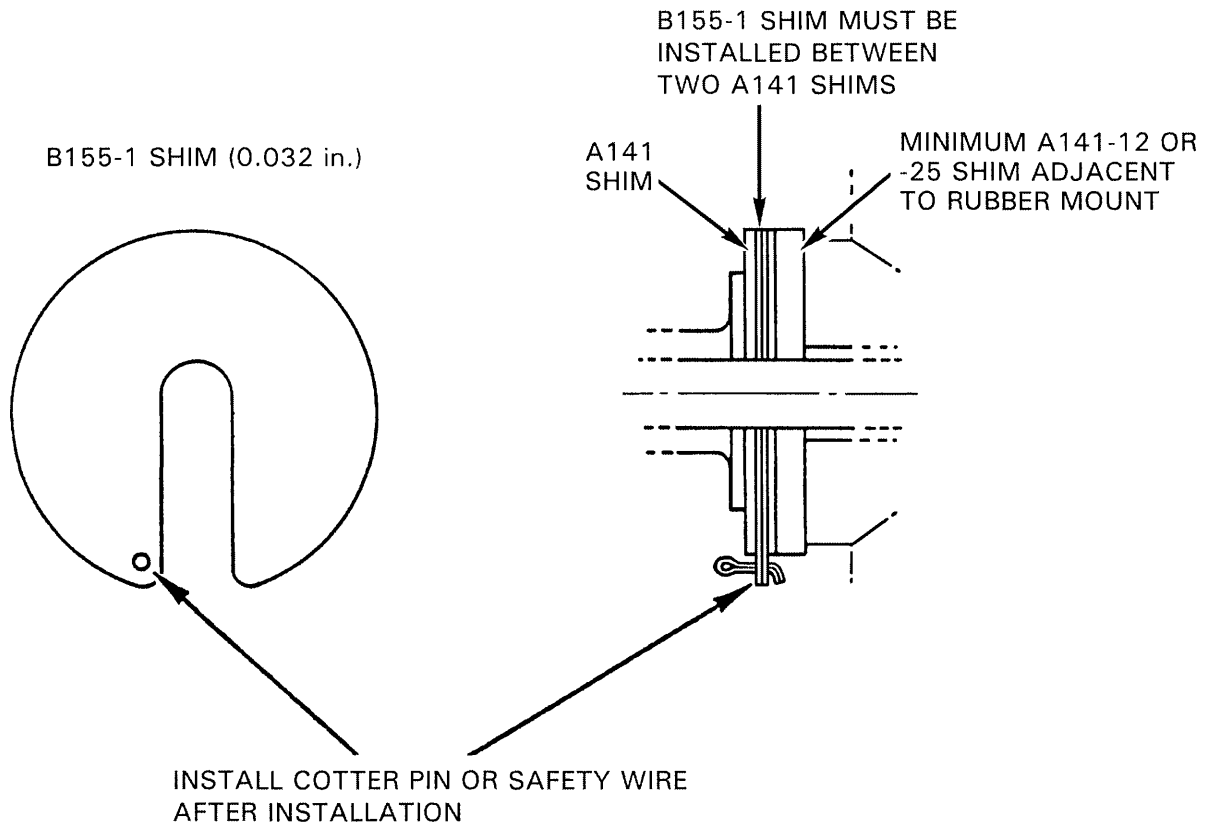

FIGURE 6-2A B155-1 ENGINE SHIM
5. Loosen upper-left and lower-left engine mount bolts. Leaving right engine mounts torqued, install selected shim(s) between lower-left frame and lower-left engine mount pad. Slotted shims, if used, may be stacked together but must be installed between unslotted shims and safetied. See Figure 6-2A.